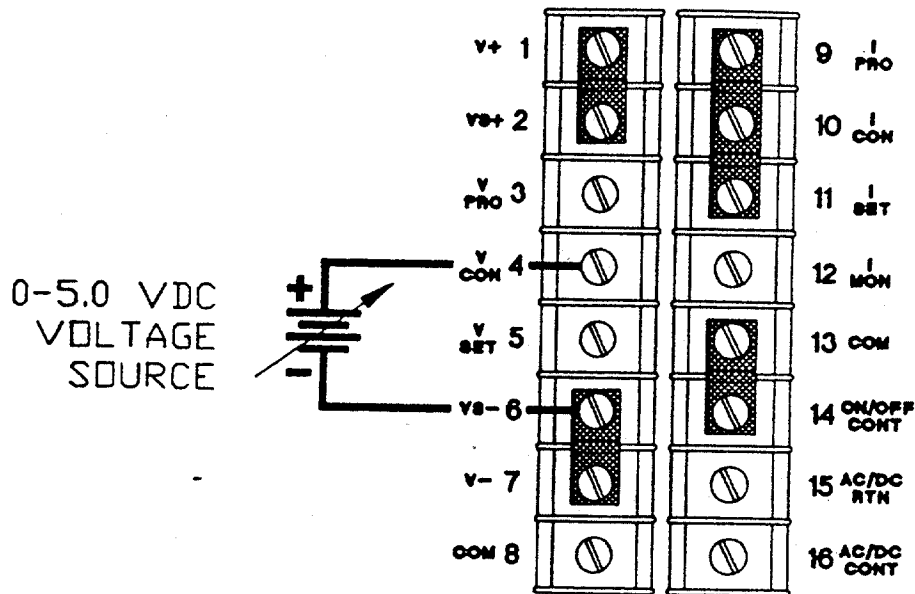

FIGURE 3-6
(2) External Voltage Programming. The voltage coefficient for external voltage programming is 5 volts = 100% of rated output voltage. To program voltage slightly above the rated output will not damage the unit, but degraded performance may result. See Figure 3-6 for strapping requirements.